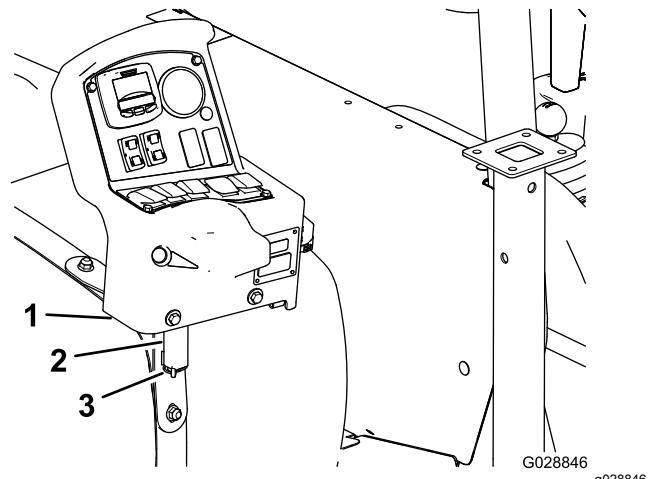

Figure 6
2. Align the pivot pin on the control console with the storage bracket at the front tank strap (Figure 6).
3. Assemble the console to the bracket and secure the pivot pin to the bracket with the hairpin (Figure 6).